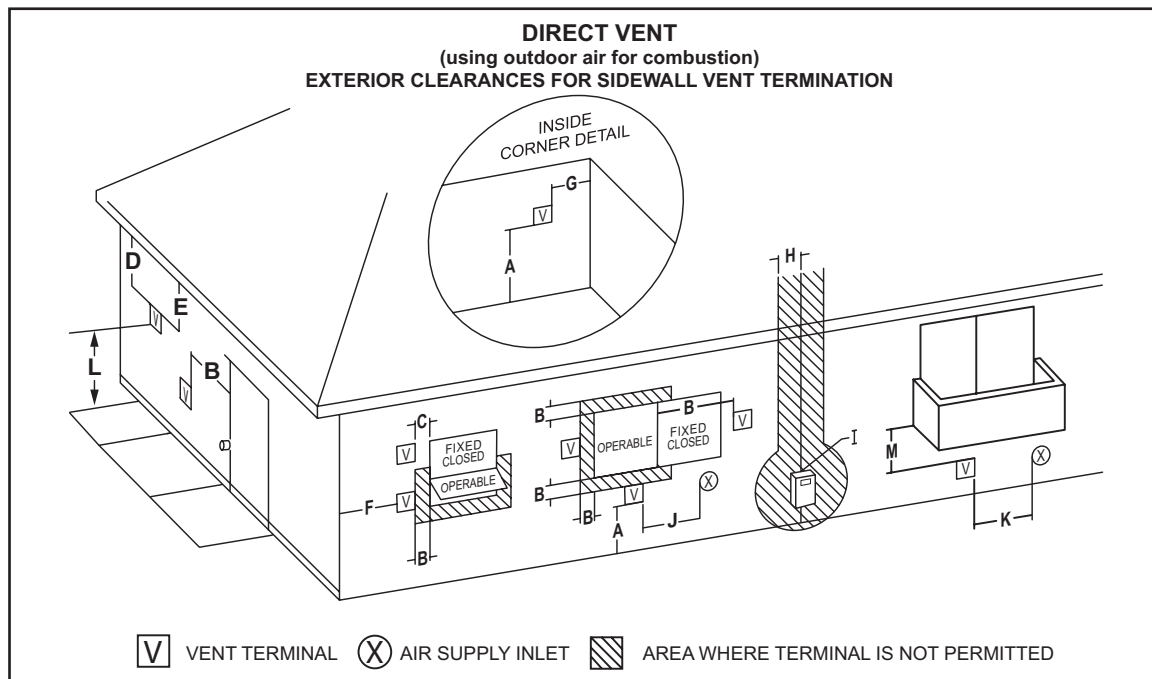

Figure 45
5. When installing a concentric termination through a sidewall; ensure that all exterior sidewall clearance requirements for the termination, shown in Figure 45 on page 35, are being maintained. These clearances and those cited by local and national codes must be maintained.